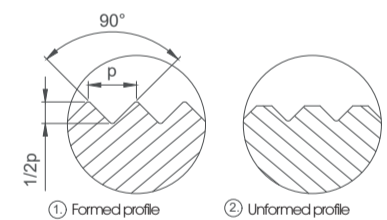

Fig. 5: Different profile pattern
The correct profile depth has been reached when the profile is knurled completely (Fig. 5, ref. 1). If the profile is not knurled (Fig. 5, ref. 2), adjust the spindles on additional scale mark and run the workpiece through again. Running into the workpiece again is possible, because the knurling wheels catch in the existing profile.